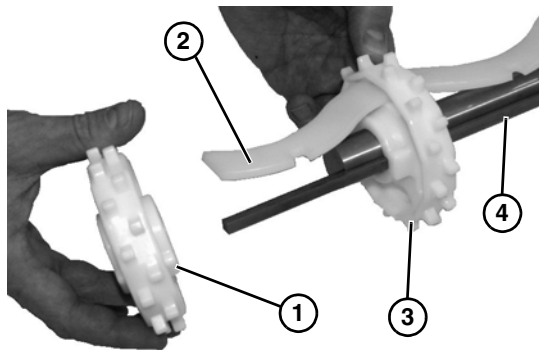

Figure 50
- Slide entire sprocket assembly slightly outward, and remove the first sprocket (**Figure 50, item 1**) off the drive spindle and alignment bar. (**Figure 50, item 2**).
- Remove remaining sprockets (**Figure 50, item 3**) off the alignment bar as you slide entire assembly off the drive spindle (**Figure 50, item 4**).